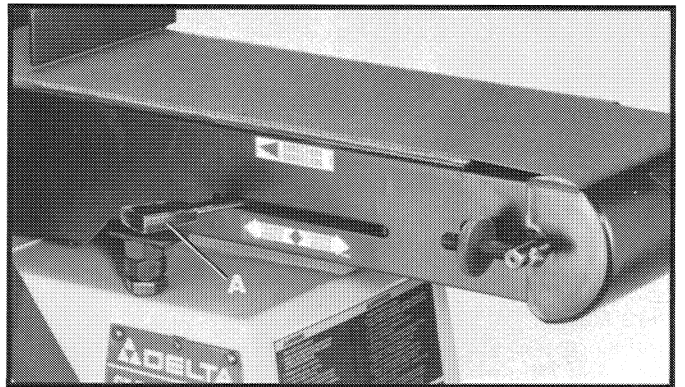

Fig. 25
2. When making this adjustment make sure the belt tension lever (A) Fig. 25, is all the way to the left in the tensioned position, as shown.